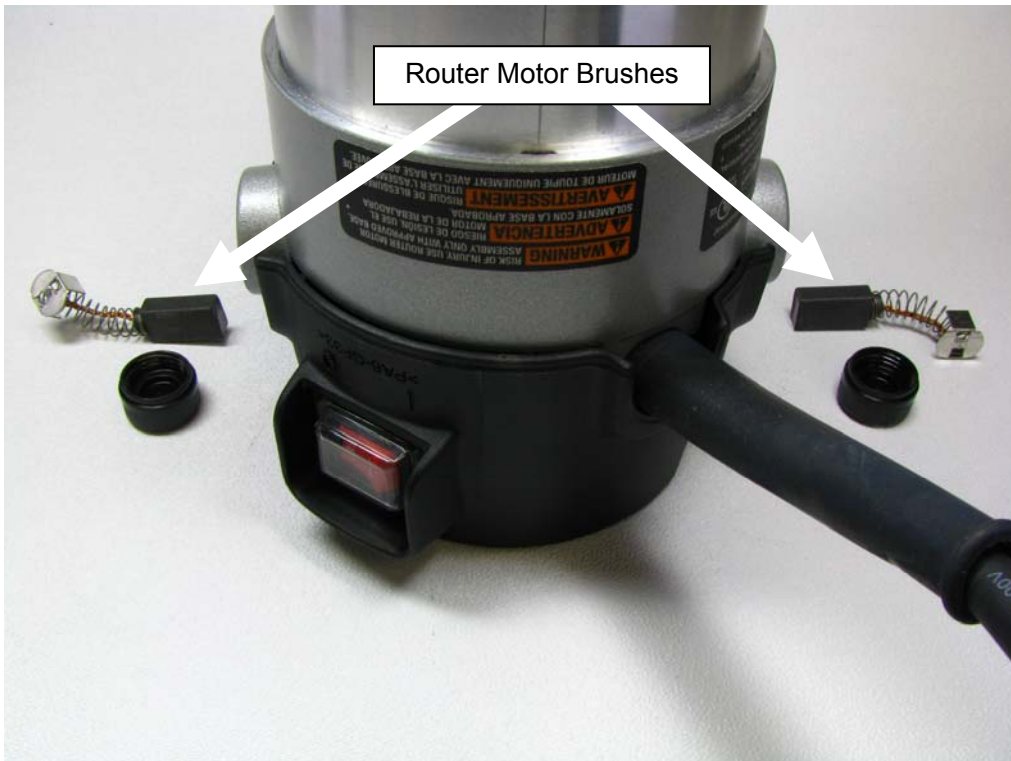

Fig 9
4. The Router Motor has two electrical brushes that should be periodically replaced. **See Fig 9.**